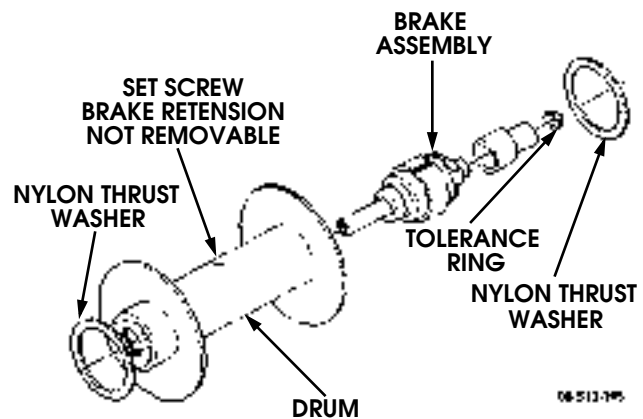

Figure 13-18: Thrust Washers and Brakes
8. Inspect brake assembly for damage (Figure 13-18).
17. With drum horizontal, install brake into drum (Figure 13-18).